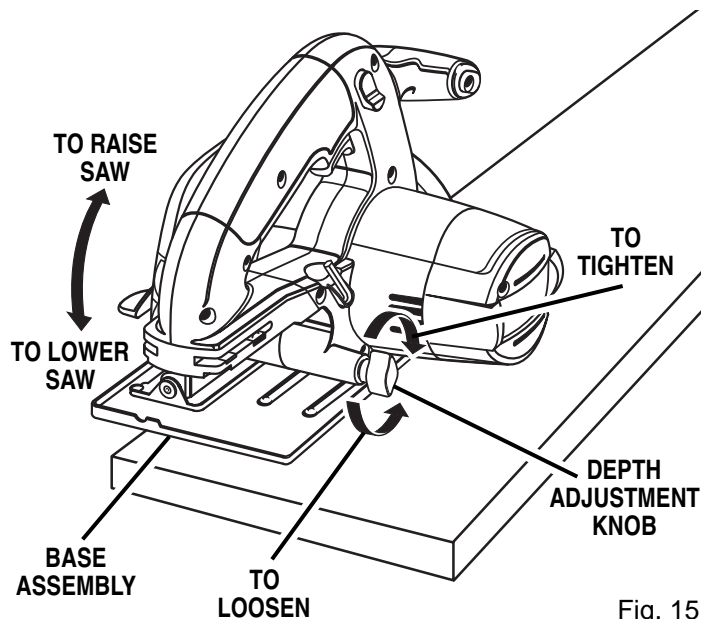

Fig. 15
- Loosen depth adjustment knob. See Figure 15.